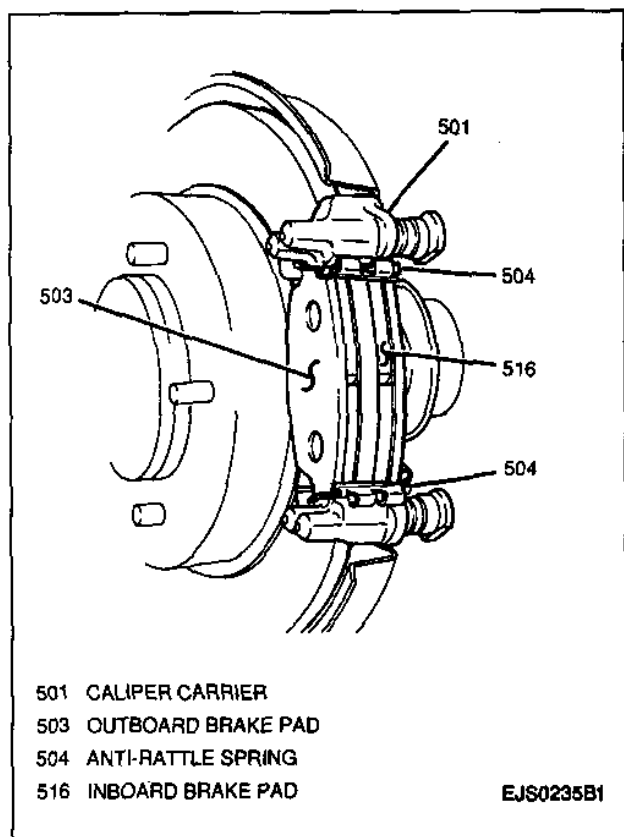

Figure 9—Brake Pads
10. Inboard and outboard brake pads from caliper carrier (Figure 9).
8. Inboard and outboard brake pads from caliper carrier (Figure 9).